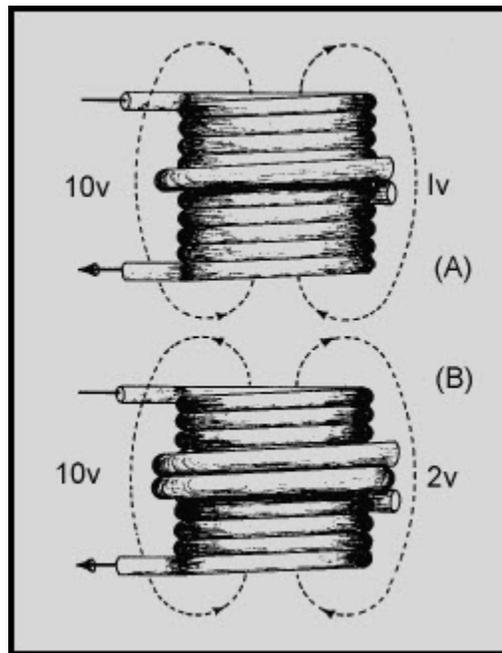

Figure 5-10 Transformer turns and voltage ratios
The total voltage induced into the secondary winding of a transformer is determined mainly by the RATIO of the number of turns in the primary to the number of turns in the secondary, and by the amount of voltage applied to the primary. Refer to figure 5-10. Part (A) of the figure shows a transformer whose primary consists of ten turns of wire and whose secondary consists of a single turn of wire. You know that as lines of flux generated by the primary expand and collapse, they cut BOTH the ten turns of the primary and the single turn of the secondary. Since the length of the wire in the secondary is approximately the same as the length of the wire in each turn in the primary, EMF INDUCED INTO THE SECONDARY WILL BE THE SAME AS THE EMF INDUCED INTO EACH TURN IN THE PRIMARY. This means that if the voltage applied to the primary winding is 10 volts, the counter emf in the primary is almost 10 volts. Thus, each turn in the primary will have an induced counter emf of approximately one-tenth of the total applied voltage, or one volt. Since the same flux lines cut the turns in both the secondary and the primary, each turn will have an emf of one volt induced into it. The transformer in part (A) of figure 5-10 has only one turn in the secondary, thus, the emf across the secondary is one volt.
The transformer represented in part (B) of figure 5-10 has a ten-turn primary and a two-turn secondary. Since the flux induces one volt per turn, the total voltage across the secondary is two volts. Notice that the volts per turn are the same for both primary and secondary windings. Since the counter emf in the primary is equal (or almost) to the applied voltage, a proportion may be set up to express the value of the voltage induced in terms of the voltage applied to the primary and the number of turns in each winding. This proportion also shows the relationship between the number of turns in each winding and the voltage across each winding. This proportion is expressed by the equation: